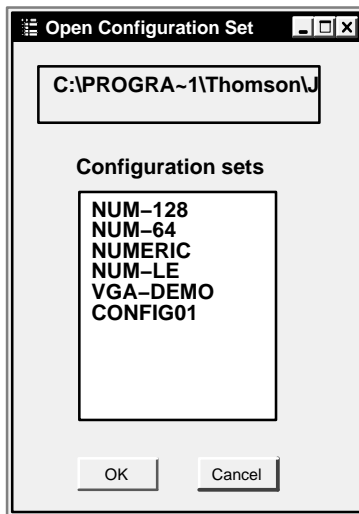

Figure 5-8. Select Edit Set menu.
1. On the “File” portion of the Jupiter Configuration menu (page 5-2), click on “Open.” This will bring up a menu similar to that shown in Figure 5-8.